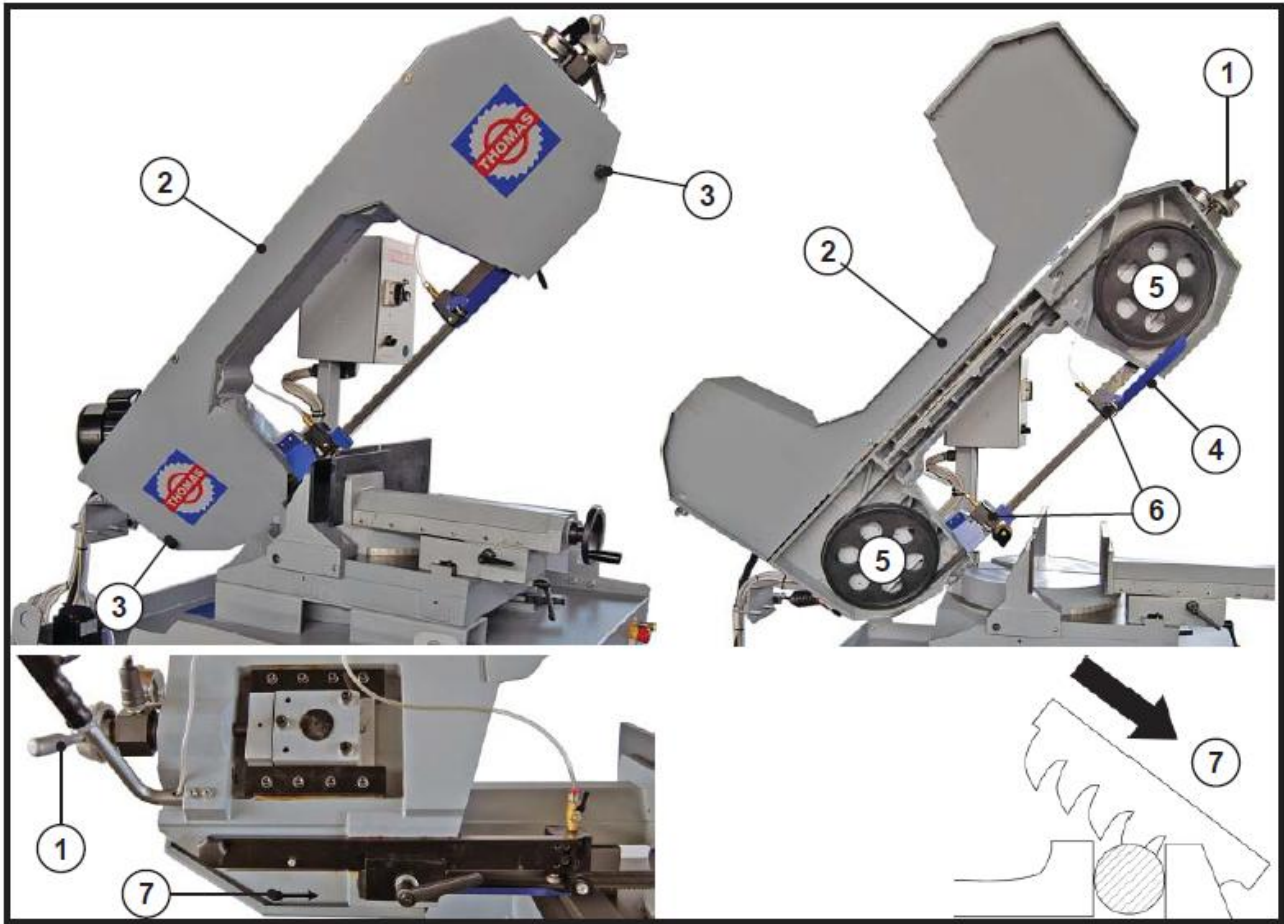

Fig. 9-11
Completely release the blade tension by turning the Hand Wheel (1 fig. 9-11) anticlockwise.
- b) Open the sawframe Cover (2 fig. 9-11) by removing the two Screws (3 fig. 9-11).
- c) Remove the movable blade Guard (4 fig. 9-11).
- d) Remove the blade from the Fly Wheels (5 fig. 9-11) and from the two blade-guides (6 fig. 9-11).
- e) Mount the new blade and insert it first through the blade-guide pads and then mount it on the fly wheels making the teeth direction is according to the arrow (7 fig. 9-11).
- f) Put again the blade under tension by turning the Hand Wheel (1 fig. 9-11) clockwise making sure that the blade perfectly suits the fly wheels tracks.
- g) Mount again the movable blade Guard (4 fig. 9-11) and close the sawframe Cover (2 fig. 9-11) making sure that the relevant safety Microswitch (2 fig 3-11) is activated otherwise the machine can not start.